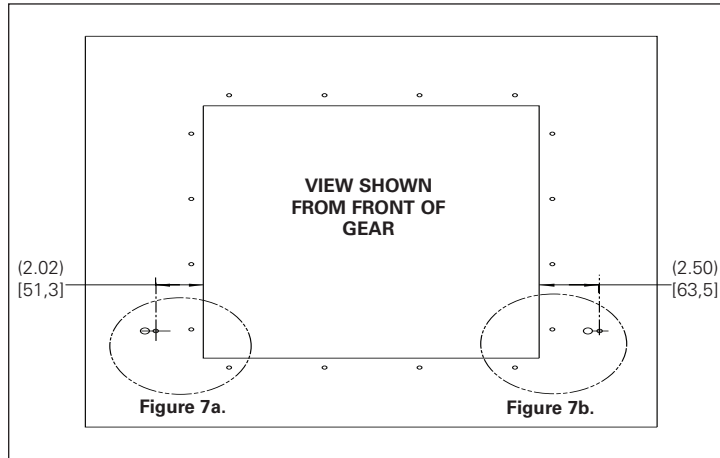

Figure 7.
Step 3: Drill the mounting and clearance holes in the switchgear door required for the latch assembly. See **Figure 7**.